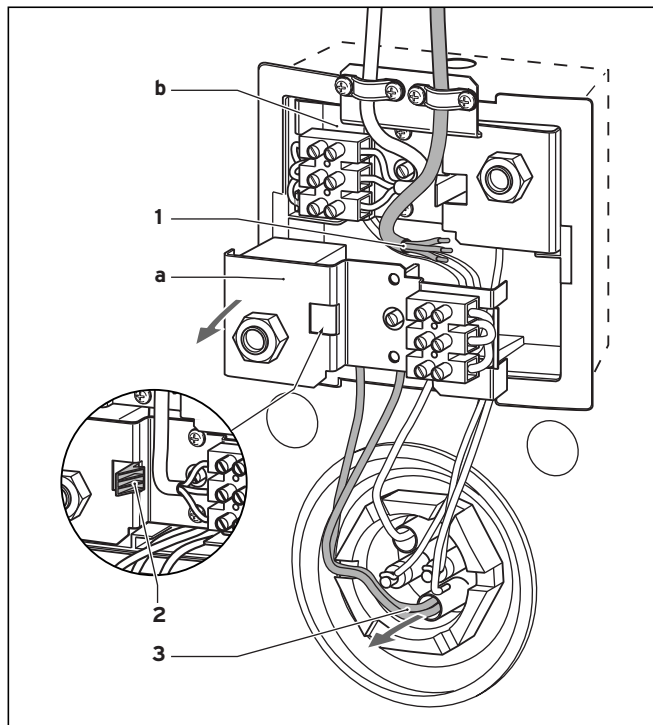

Fig. 5.4 Removing the cylinder control (Version A)
- Disconnect the wires (1) from the terminal block of the cylinder control (a).
- **Version A, fig. 5.4:**
Unclip the cylinder control (a) and remove it from the terminal box (see 2, fig. 5.4).